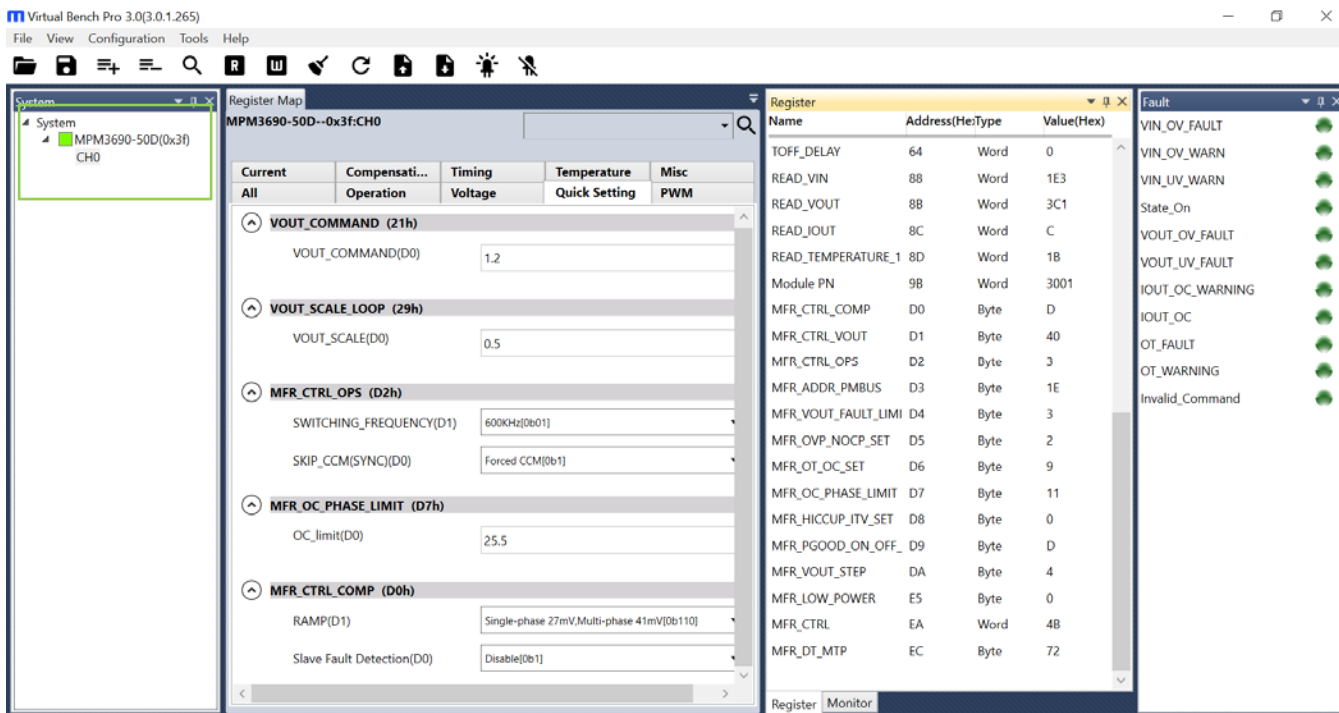

Figure 3: Green Indicator Shows Successful Connection
4. Open the Virtual Bench Pro GUI to automatically scan the connected power module. When the GUI detects the power module, an address appears on the left panel next to the MPM3690-50D and the indicator to the left of the MPM3690-50D turns green to show a successful connection (see Figure 3 on page 5).